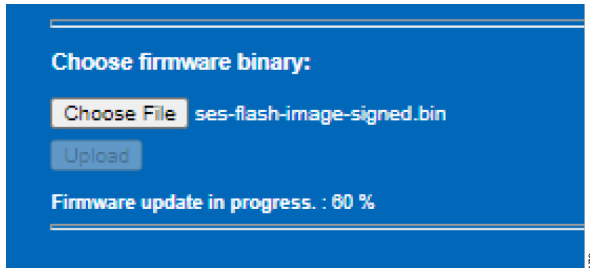

Figure 182. Firmware Update – Upload to Web Server
2. Figure 182 shows the progress of the file upload into the web server.